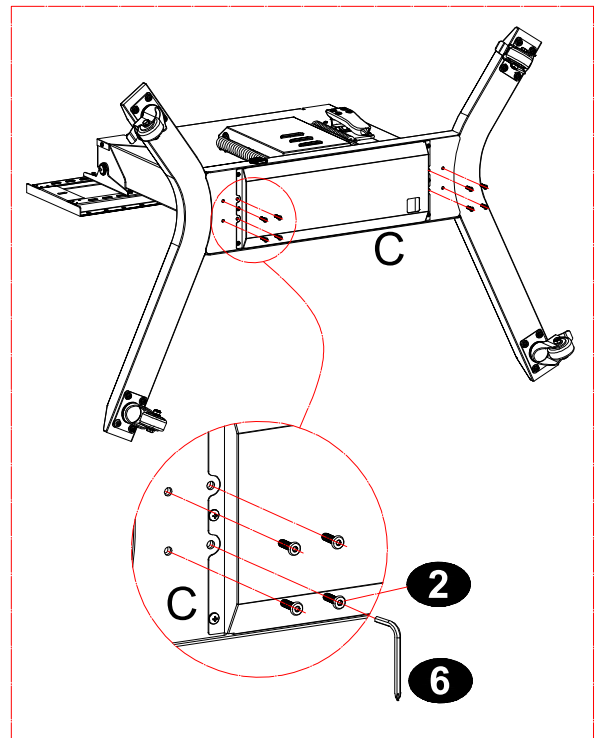

Figure 3
2) Use the M6*20 Screw (2) to fix the column (A) to the bottom of the base (C), as Figure 3.